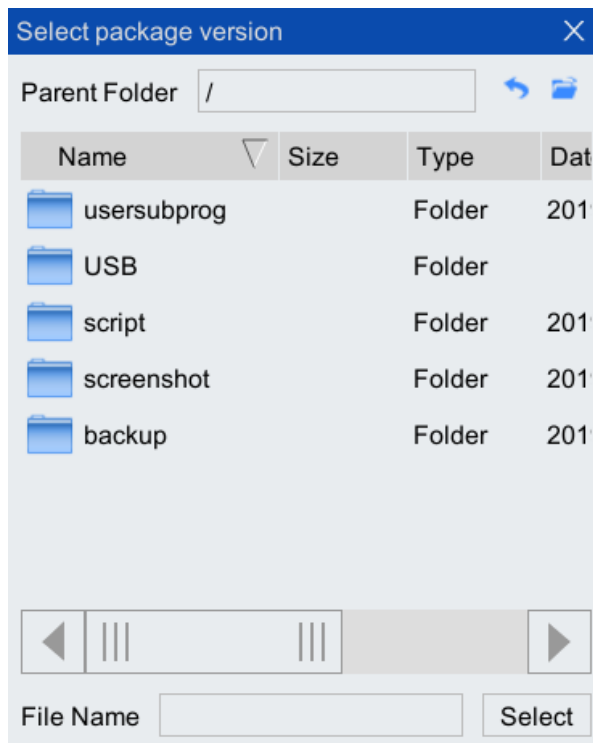

Fig. 3-3 "Select Feature Pack Version" dialog box
Step 5. Click "Install" button to pop up the "Select Package Version" dialog box shown in Fig. 3-3.